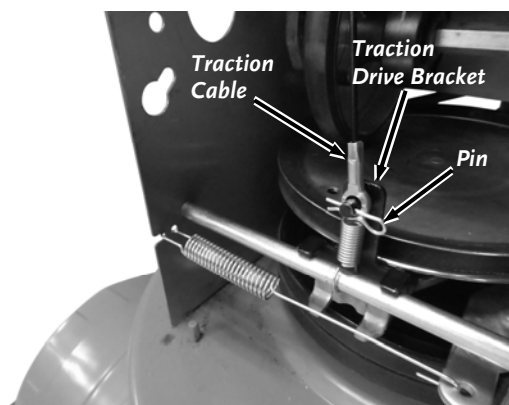

Figure 72
7. Remove the Pin and remove the Traction Cable from the Traction Drive Bracket (**Figure 72**).
10. Install the Traction Cable onto the Traction Drive Bracket and Pin (**Figure 72**).